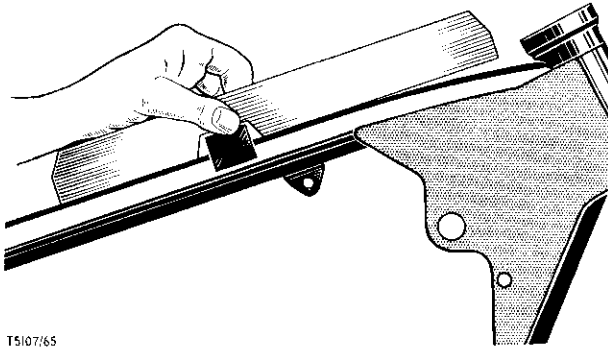

Fig 65 Bent top tube
332. Sometimes if the machine has been subjected to a frontal impact, the main tube may remain parallel at points (1) but will be bent as shown in Fig 65. A straight-edge, made from a piece of good quality hardboard can be used for this purpose, but the checking edge must be quite straight.